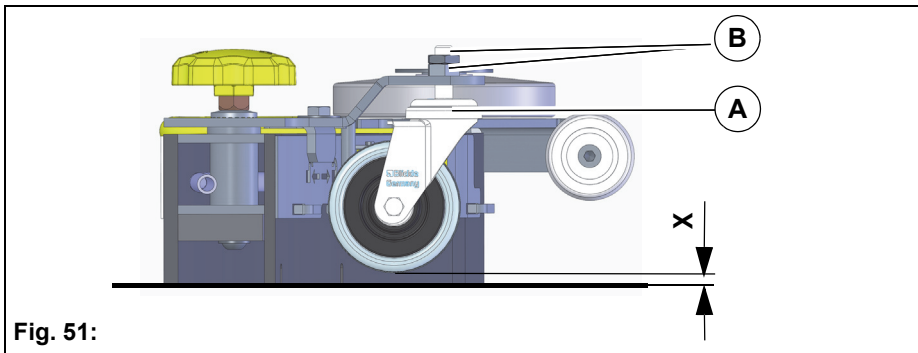

Fig. 51:
The height adjustment (X) of the supporting rollers **Fig. 51-A** has been set to 7 mm in the factory. If striping still occurs despite optimum inclination adjustment, readjust the distance between the supporting rollers and the lower edge of the sealing strip.
3. Loosen nuts **Fig. 51-B** and adjust distance between supporting roller and ground as per the table.